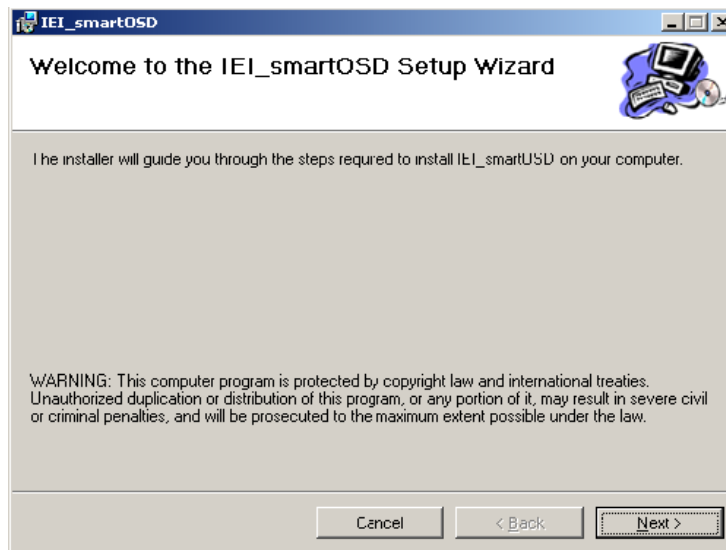

Figure C-1: smartOSD Welcome Screen
Step 3: The welcome screen shown in Figure C-1 appears.